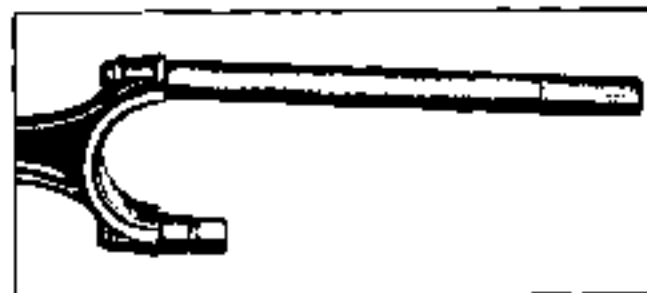

Fig. 6-64 Connecting Rod Guide Tool
1. Install connecting rod bolt guide set J 5239 on connecting rod bolts (fig. 6-64).